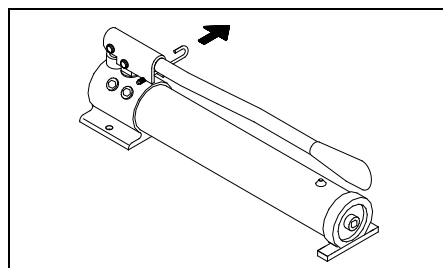

Figure 4 - Pull spring loaded lock pin, pivot toward rear to unlock pump handle.
- Pull spring loaded lock pin, pivot toward rear to unlock the handle (Fig. 4).
- Pull spring loaded lock pin pivot toward rear to unlock the handle (Fig. 4).